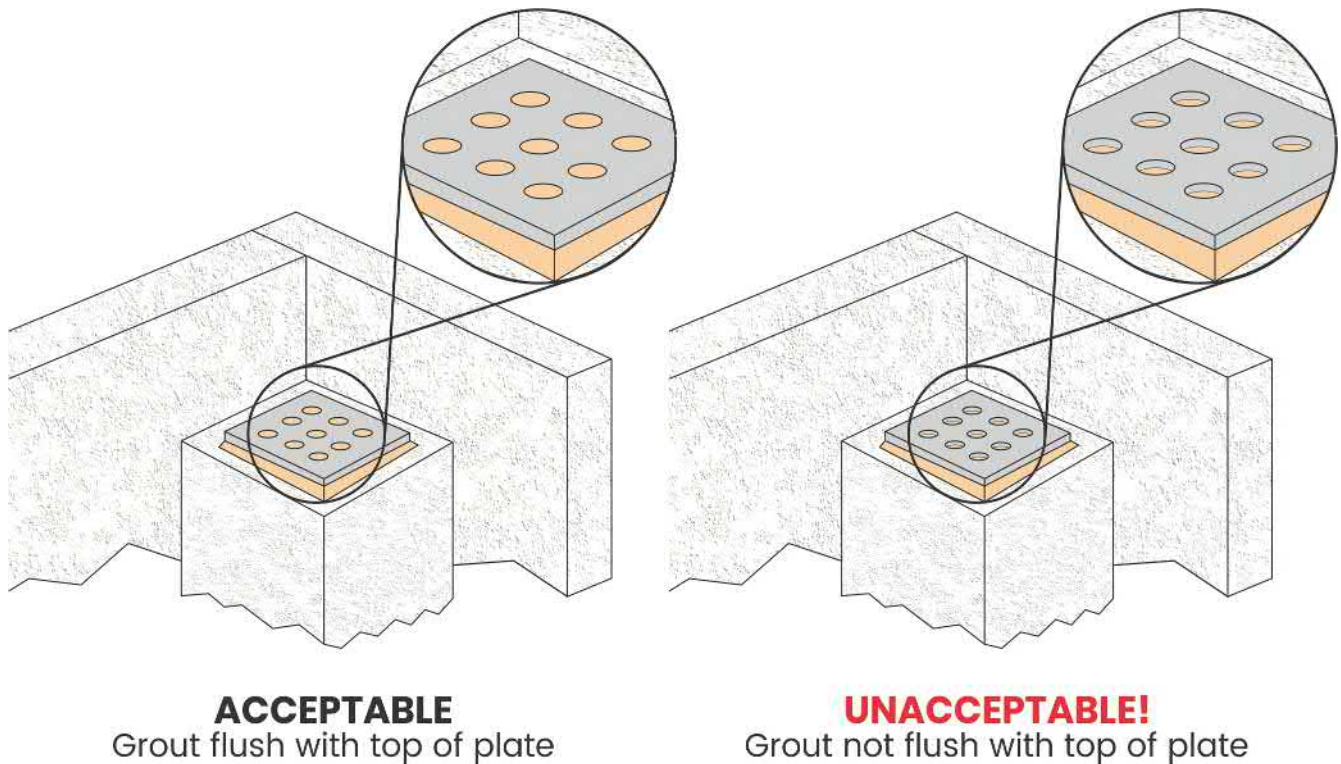

Figure 3
6. If grout plates are used, they must be flat, (a 125 Blanchard ground or shot-peened finish is recommended), anchored and grouted into place. It is *critical* that all grout access holes are filled with grout until the grout is even with the top of the plate as shown in Figure 3. Any hole or gap under the element will cause uneven loading and the element will not function as designed.